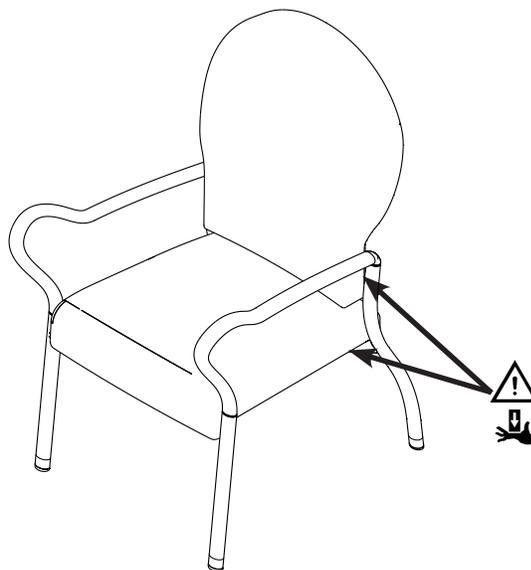

Figure 4: Comfort-Flex Pinch Points
- When using the Comfort-Flex models 4855 and 4856, keep extremities away from identified locations as shown in Figure 4 as potential pinch points exist, which may result in minor or moderate injury.